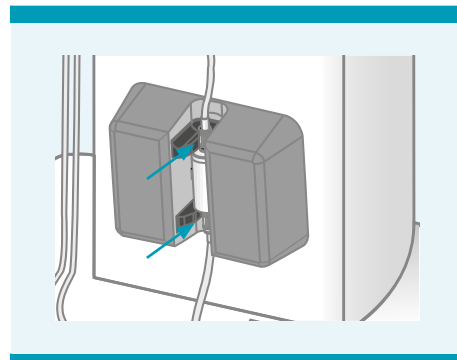

Figure 7.4: Separation column in separation column holder
1. Insert the separation column into the separation column holder (see Figure 7.4).